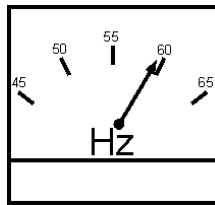

Figure 39. Frequency Meter (Hz)
8. The generator's frequency meter (Figure 39) displays the 60 cycle output frequency in **HERTZ**.